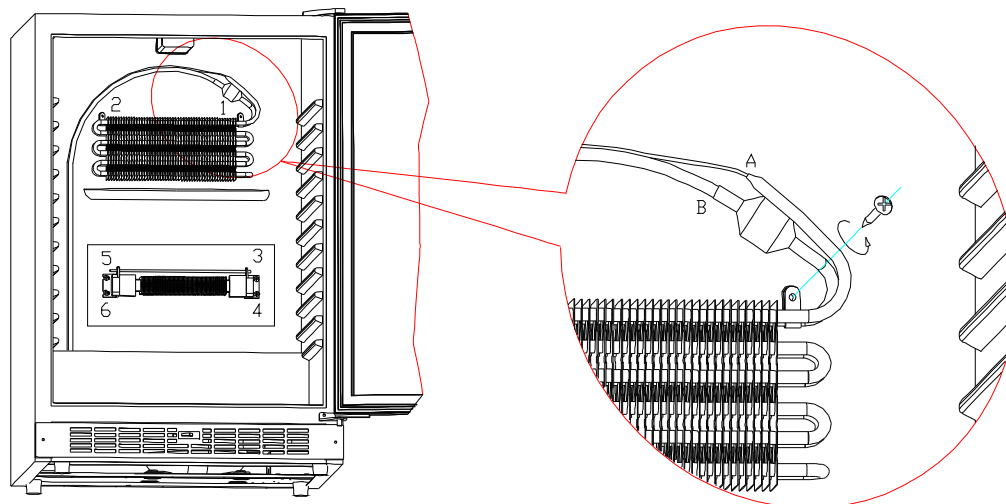

Fig.19
○ Front side joints location. See (Fig.19)
Check the resistance at both sides of PTC heater using a Multi meter; the reading should be approx 1.5 K $\Omega$  (assuming normal temperature), if open circuits Replace the PTC heater having once verified the connections to the PTC heater. Remove the fixing screws of heater (3,4,5,6) , replace new one.See (Fig.19).
- 1>. Heat the soldered joint of the capillary ("A" of Fig.19), then remove the capillary from the evaporator and smooth the end with an eraser. (Caution: do not allow any particles into capillary unit)
- 2>. If the capillary touch the inner cabinet and the air duct panel, adjust the position of the capillary and add the incabloc plastic. (Fig.19)